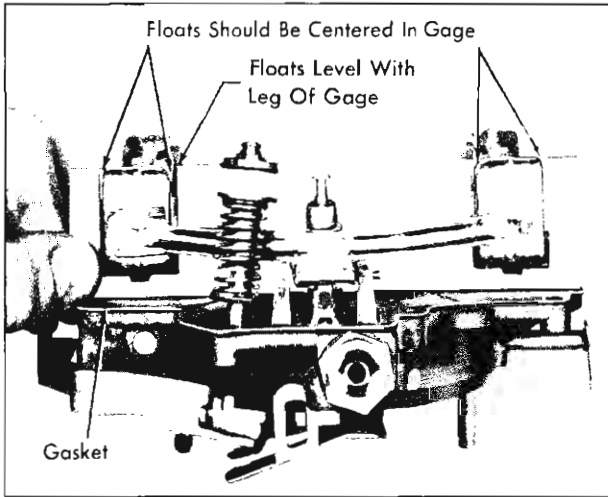

Fig. 42—Primary Float Level Adjustment
B. Float Alignment—Primary Side (Fig. 42)